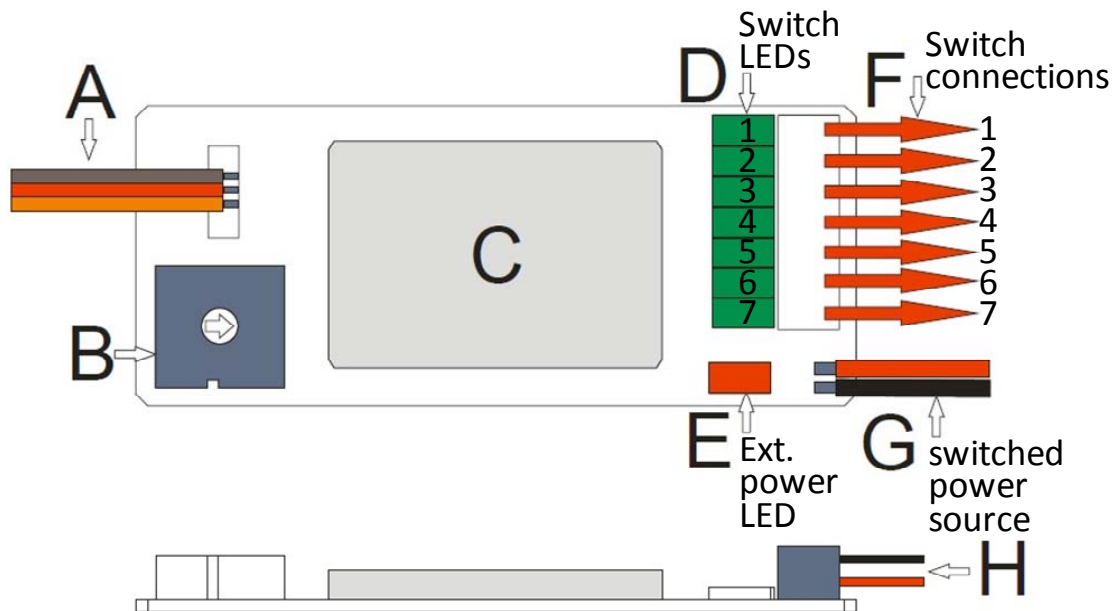

Figure 1 - MRS Physical layout
NOTE: Do not hook up the external power (Figure 1 — G/H) or any of the switch outputs (Figure 1— F) when calibrating!
- a. Plug the MRS servo lead (Figure 1- A) into the receiver channel that will control the MRS.
- a. Set the MRS dial switch (Figure 1 - B) to "0"
- b. Turn on the transmitter and receiver — all of the MRS LEDs (Figure 1- D) should be flashing.
- d. After the sequence finishes the switch will automatically go into the initial (0) sequence of the selected MODE (**all switches off**).
- i. The lit green LED lights (Figure 1— D) indicate which of the corresponding switches are on.
- ii. The lit green LED lights (Figure 1— D) indicate that the corresponding switch is on.
- b. Select the desired MODE on the MRS (Figure 1— B).
- c. Hook up the device(s) to be powered to the desired switch outputs (Figure 1— F).
- e. Connect external power (battery) to the MRS (Figure 1- G).
- f. The red power connected LED (Figure 1 — E) will indicate external power is on.